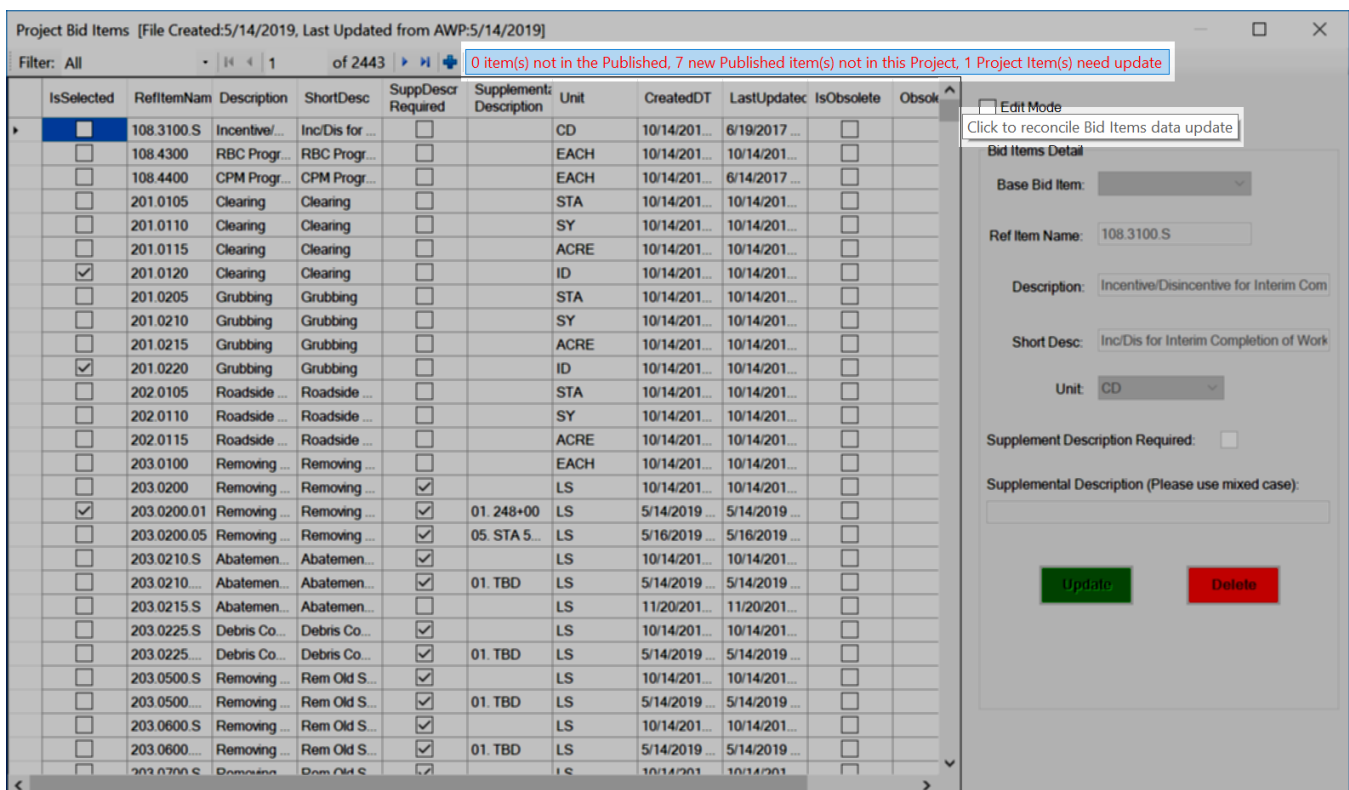

Figure 3.5 Reconciliation Tool in "Project Bid Items" dialog box.
Most projects will not be designed in less than a year which requires the need to contend with WisDOT's yearly updates to its Standard Specification list of bid items and Standardized Special Provision items. Although users are unable to manually add or delete standard bid items, Q2P does have a **Reconciliation Tool** available (Figure 3.5) to compare the list of bid items in the Q2P workbook with the list of bid items in the AWP database server based upon the chosen spec. book year. This tool also allows users to update their **Project Bid Item** list with any new bid items from year to year when they change the Spec. Book year in the **Project Setup** window or if the chosen Spec book list of items has had changes made in AWP.
1. Select **Q2P > Data > Project Bid Items**. If there are any changes, users will notice a string of red text (Figure 3.5) next to the blue "+" in the "Project Bid Items" dialog box.